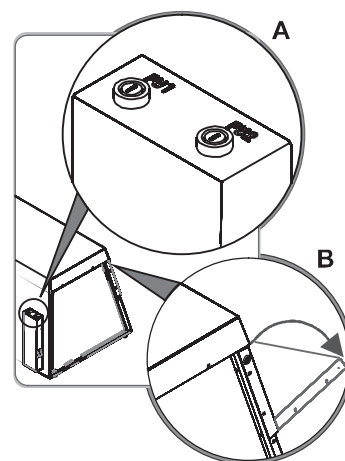

Fig.2.
*Replacement of fuses.* Disconnect the device from the mains power supply. Open the fuse holder (fig.2/A) located on rear side of the device by turning its cover anti-clockwise. Replace with the correct fuse. For 230V, 50Hz FU1 -6.3A
It is necessary to replace UV lamps at the end of manufacturer specified life time. Average life time of UV lamps supplied is 8000 hrs. To remove a bulb, switch off and disconnect the cabinet at the wall outlet. Unscrew the two screws on the sides of the upper screen (fig.2/B) and tilt the screen to release access to the bulb. Remove the bulb by rotating it until it comes free and can be slid out of the holders at each end.